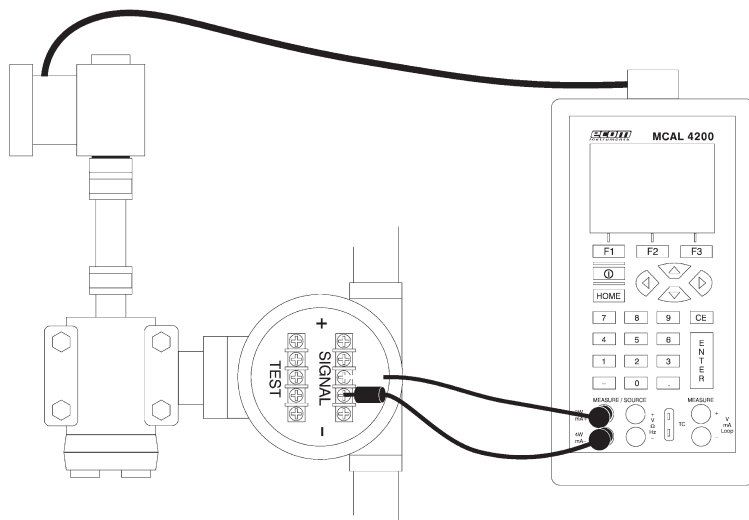

Figure 20. Calibrating an I / P Device
3. Connect the calibrator to the device as shown in Figure 20. The calibrator will simulate the transmitter current and measure the output pressure.